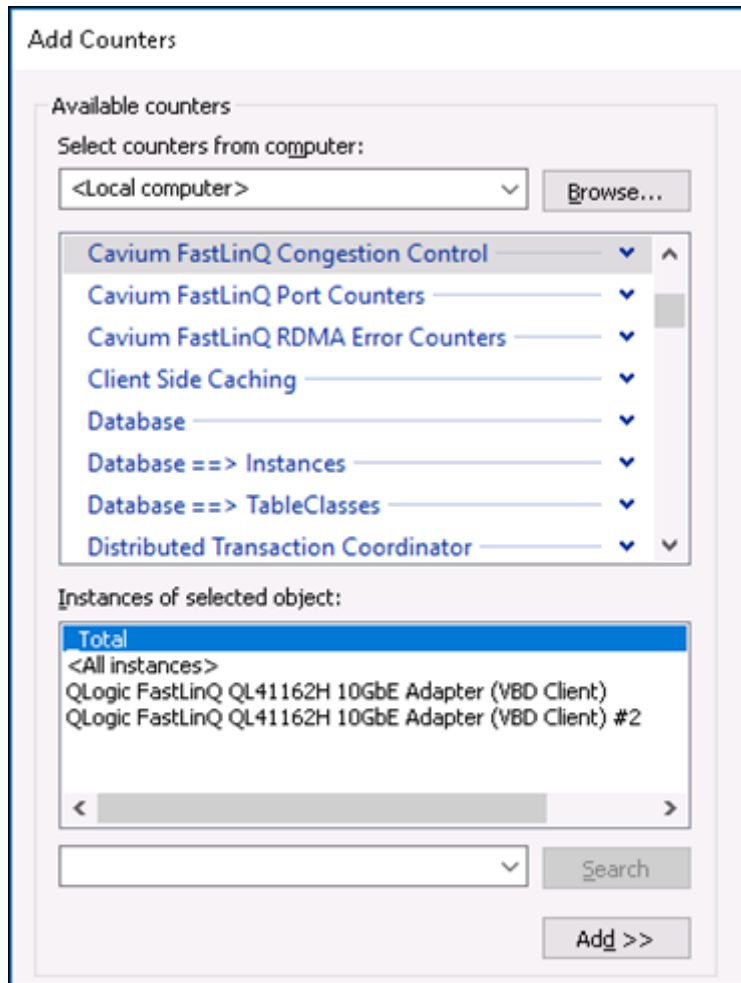

Figure 7-2. Add Counters Dialog Box
2. Open the Add Counters dialog box. Figure 7-2 shows an example.